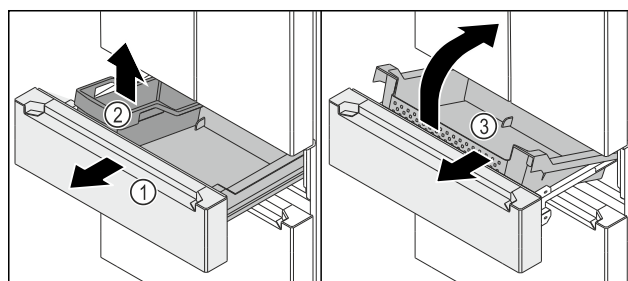

Fig. 151
- Pull out the pull-out cart Fig. 151 (1) as far as it will go.
- Remove the FlexBox Fig. 151 (2).
- Lift up the container Fig. 151 (3) at the front.
- Remove the container Fig. 151 (3) diagonally from the front.